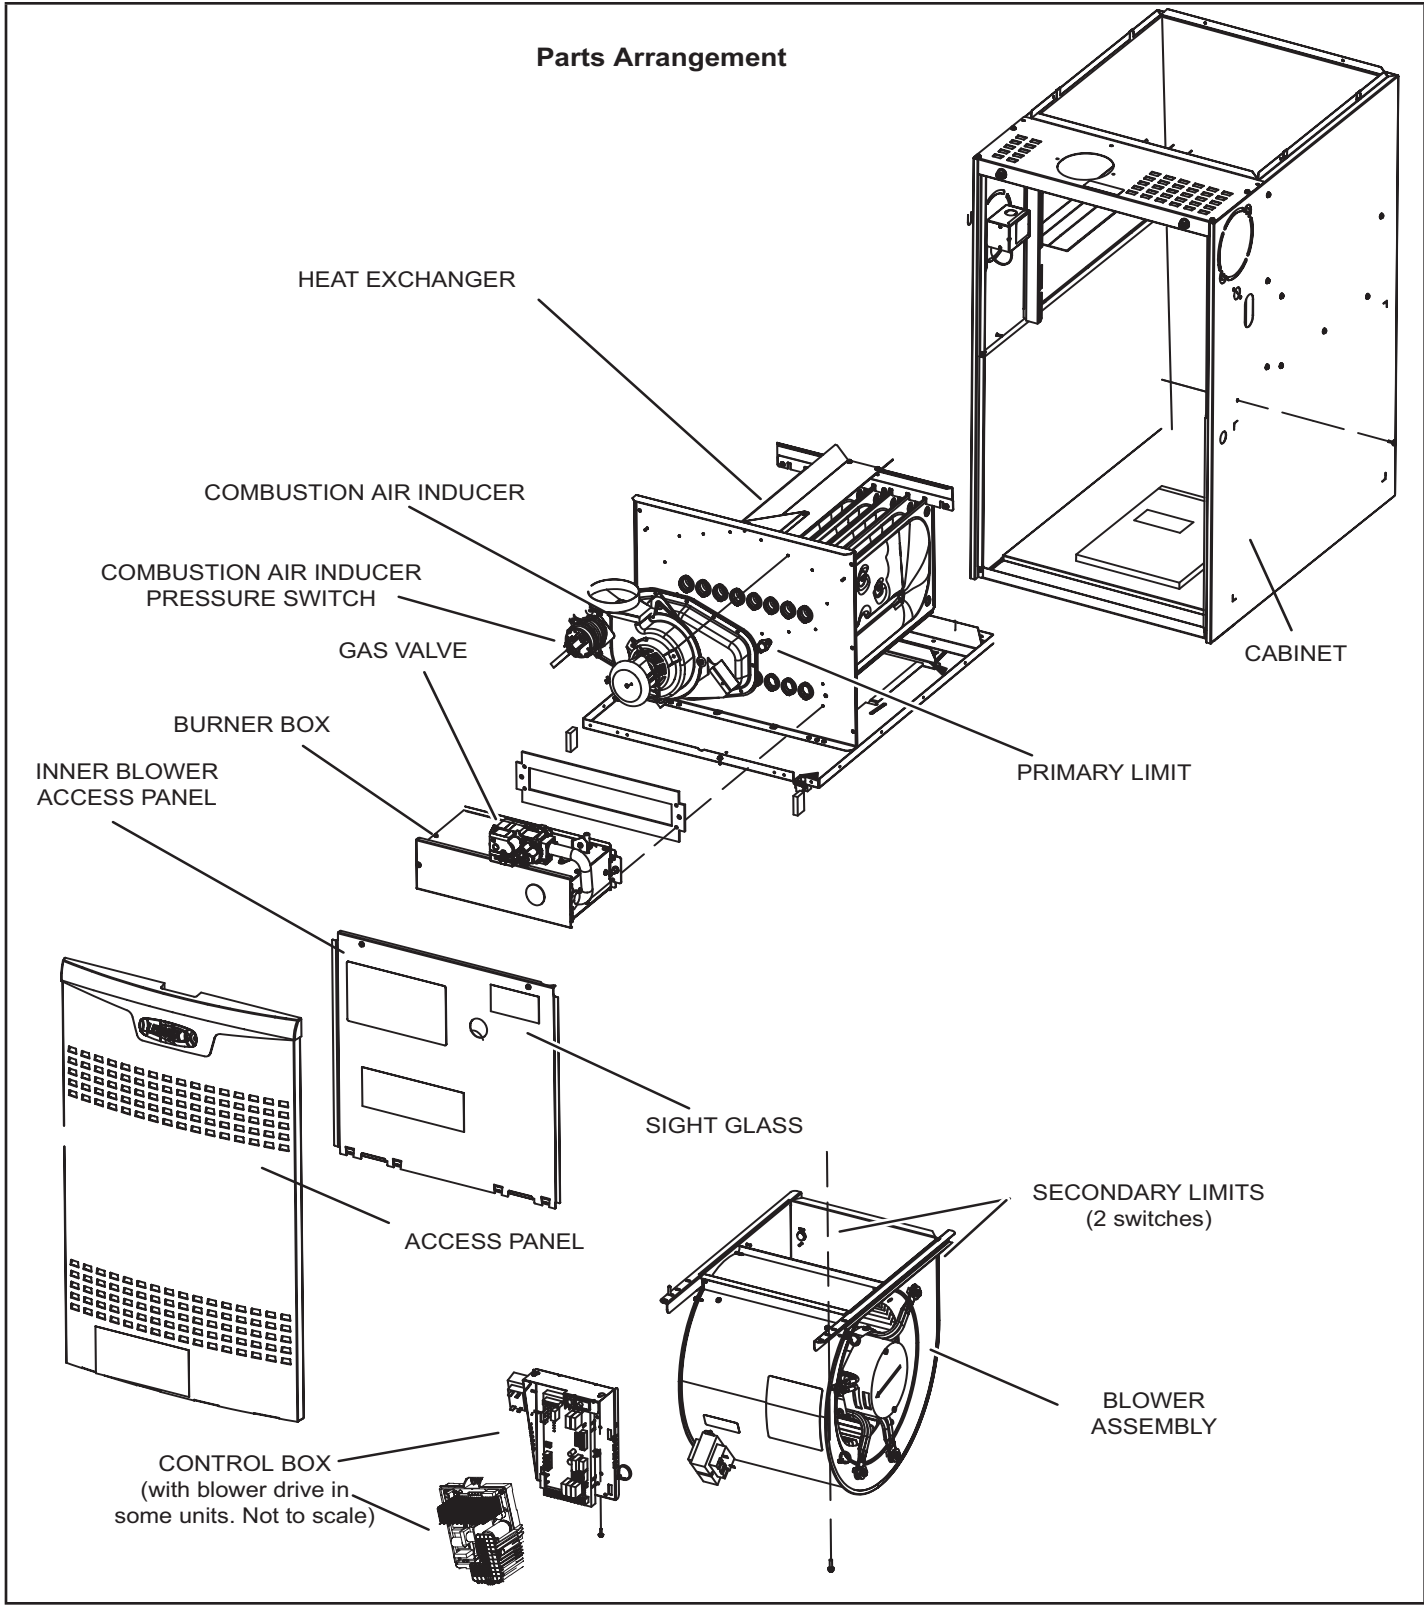
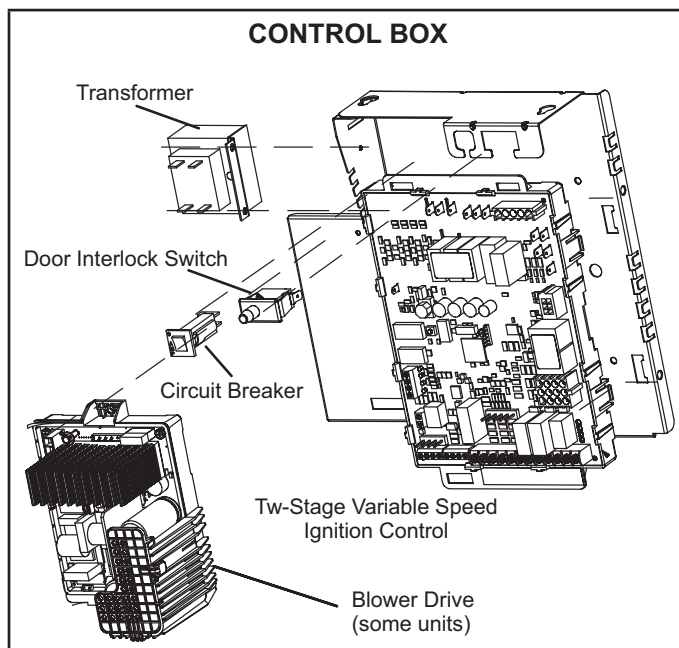

FIGURE 1
FIGURE 2
SL280UHV(X) unit components are shown in FIGURE 1. The gas valve, combustion air inducer and burners can be accessed by removing the access panel. Electrical components are in the control box (FIGURE 2) found in the blower section.